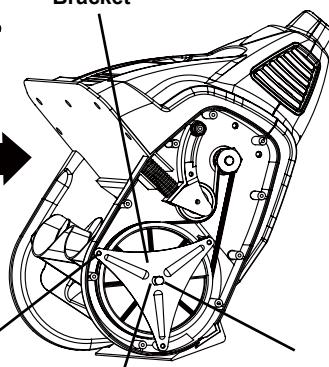

Fig. 8
- Remove the flange lock nut and the washer from the impeller pulley shaft (Fig. 8).
- Remove 3 screws from the impeller pulley bracket shown in (Fig. 8).
- Remove the impeller pulley bracket (Fig. 8).